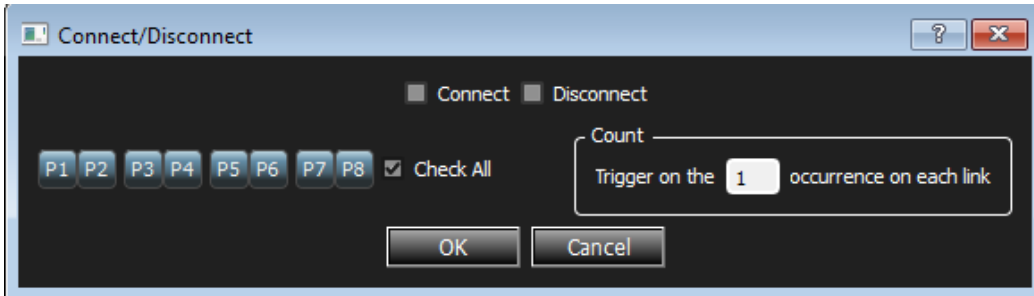

Figure 4.128: Connect/Disconnect Dialog Box
- 1. Double-click **Connect/Disconnect** to open the **Connect/Disconnect** dialog box (Figure 4.128).